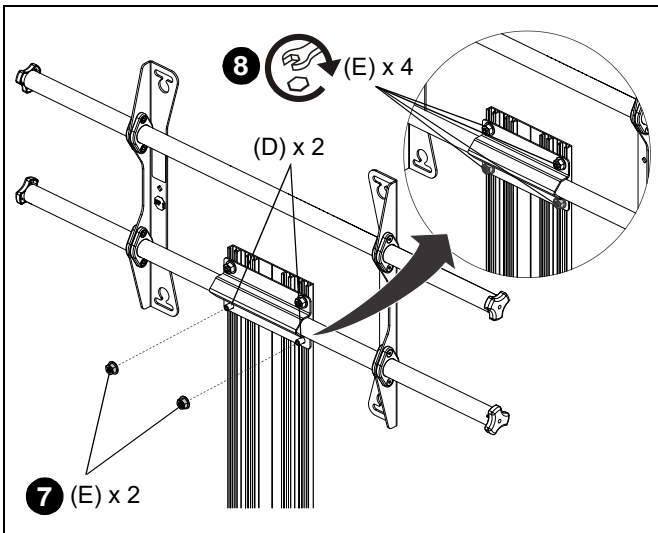

Figure 6
7. Tighten the two M8 x 20mm screws (D), then loosely install two M8 flange nuts (E) to the screws (D).
8. Tighten all four M8 flange nuts (E) securing the bar clamp to the M8 x 20mm screws (D) screws. (See Figure 6)